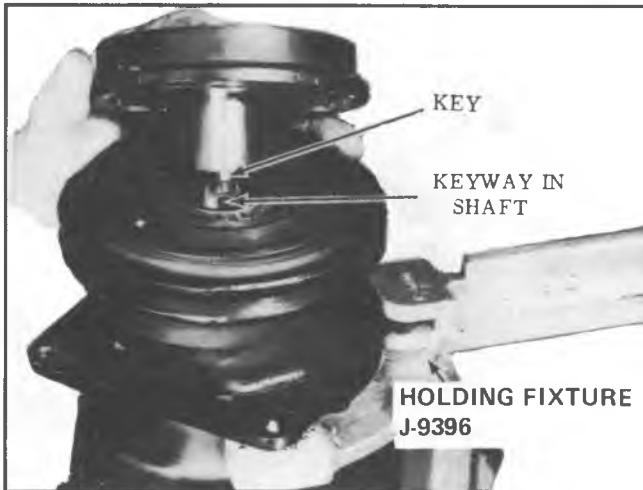

Fig. 7-Alining Drive Plate Key
2. Line up the key in the hub with keyway in the shaft (Fig. 7).